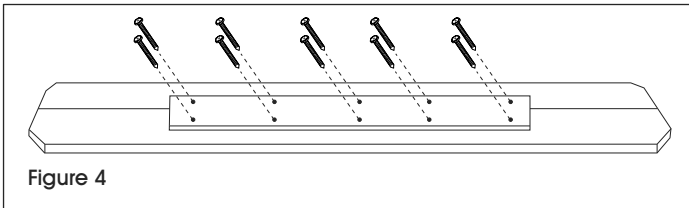

Figure 4
10. Attach a seat brace along the center of two seat planks ensuring the brace is equal distance from both ends of the seat. Pre-drill holes using 1/8" drill bit and attach using ten 2 1/2" wood screws on the brace. Repeat for the second seat plank. (See Figure 4)